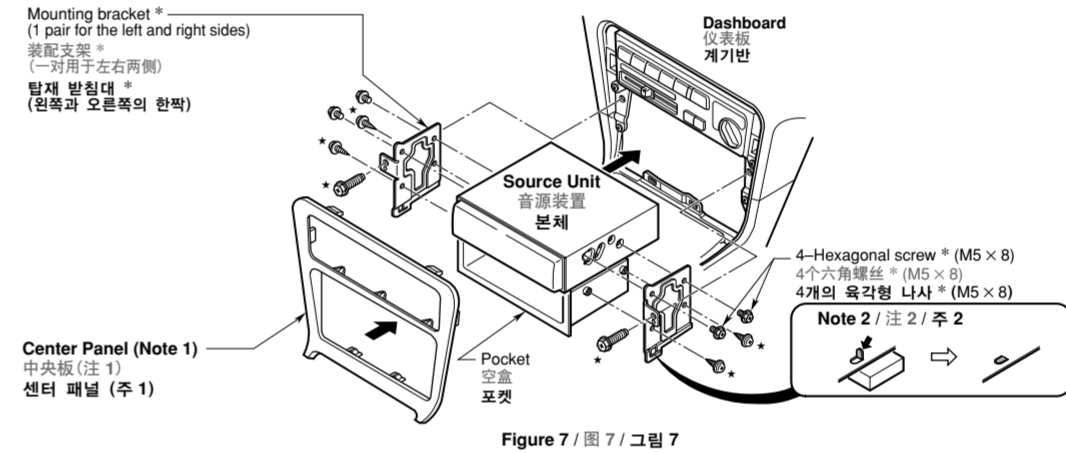

Figure 7 / 图 7 / 그림 7
This unit is designed for fixed installation in the dashboard. If the vehicle is equipped with a factory-installed radio, install the source unit with the parts and screws marked (★) (Figure 7). If the vehicle is not equipped with a factory-installed radio, obtain an installation kit to install the source unit in the following procedure.
本机用于固定在仪表板上。如果汽车装备有出厂时安装好的收音机, 请用带星号(★)的零件和螺丝安装音源装置(图7)。如果汽车不装备出厂时安装好的收音机, 请用安装工具按照以下步骤安装音源装置。
- Secure the mounting brackets to the chassis as shown in Figure 7. Holes are pre-tapped for TOYOTA and NISSAN vehicles; modification, such as drilling new holes, of the mounting brackets may be required for other models.
- 如图7所示, 将装配支架固定到底盘。丰田和日产汽车具有现成的安装用孔; 其他车型可能需要改造装配支架, 如钻出新孔等。